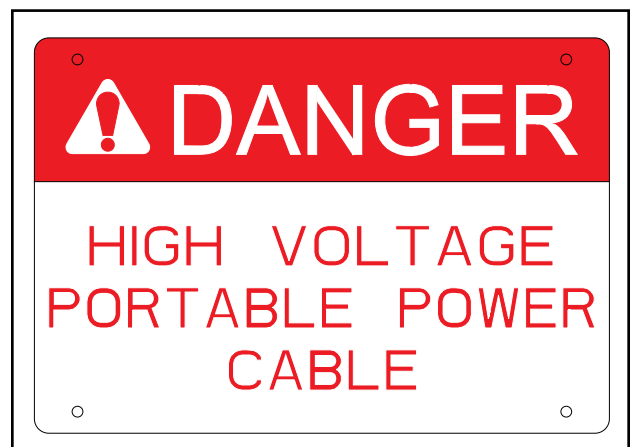

Figure 37-1 Danger Sign
1. Ensure that the danger signs are in place and visible at each end of the travel lane. See figure 37-1.